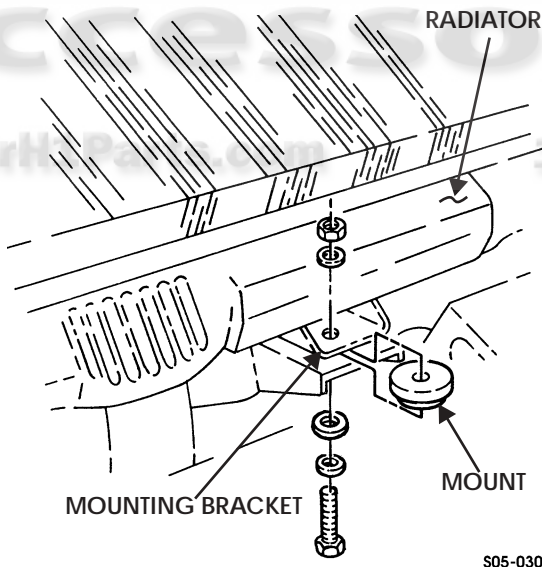

Figure 5-80: Radiator Mounting Bracket
7. Remove locknut, two washers, large washer, mount, and capscrew from mounting bracket and radiator (Figure 5-80). Discard locknut.
4. Secure radiator on mounting bracket with mount, large washer, two washers, capscrew, and locknut. Tighten locknut to 30 lb-ft (41 N•m) (Figure 5-80).